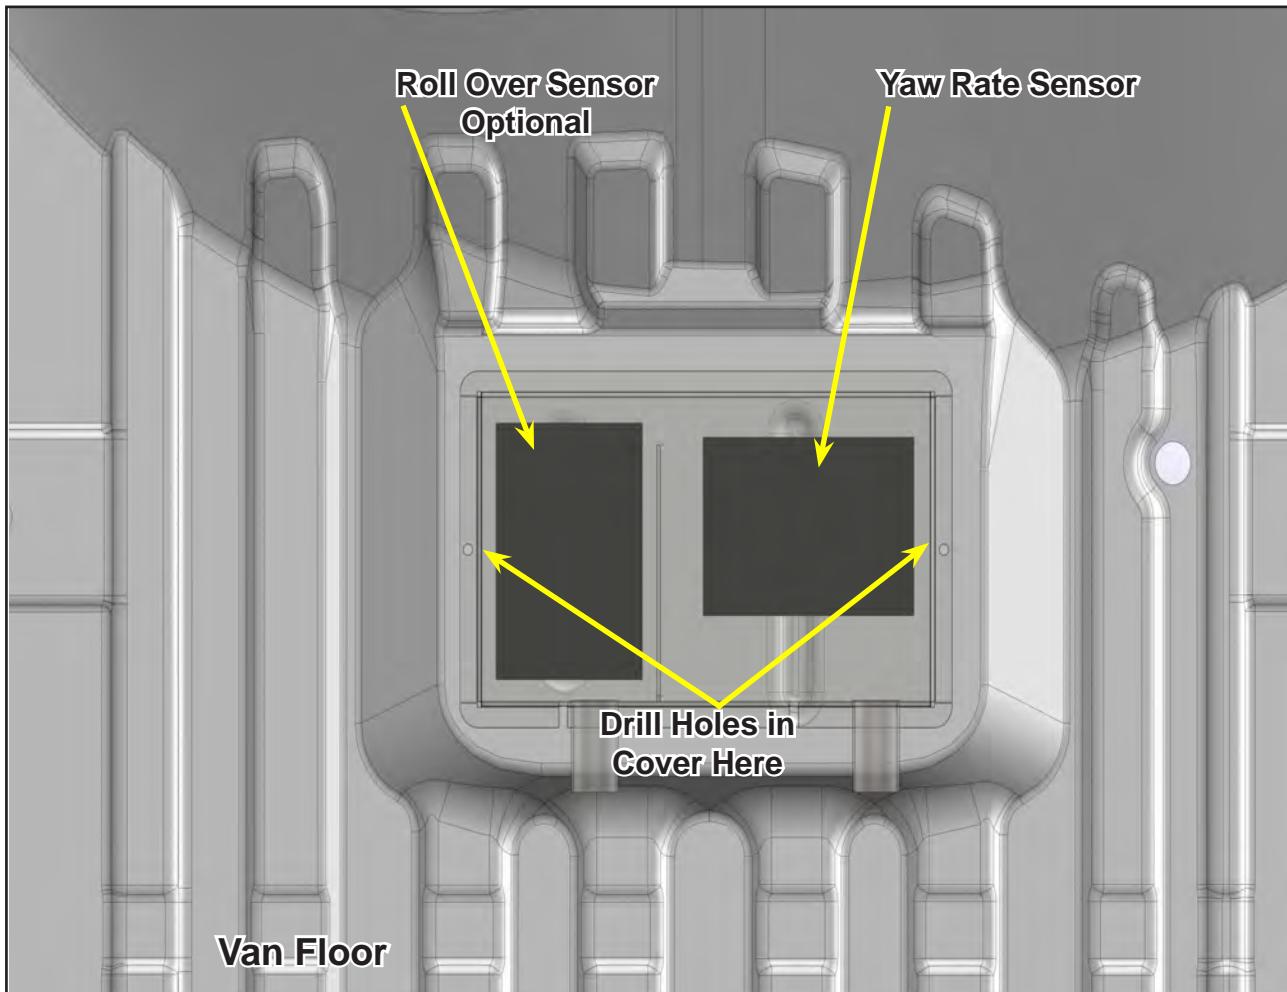

Figure 8. Top Down View of Van Floor - Mount New Cover Over Yaw Sensor
7. With either the #16 or #17 drill bit, drill two holes into the van floor, using the 2 holes from the yaw sensor cover as a reference (see Figure 8).